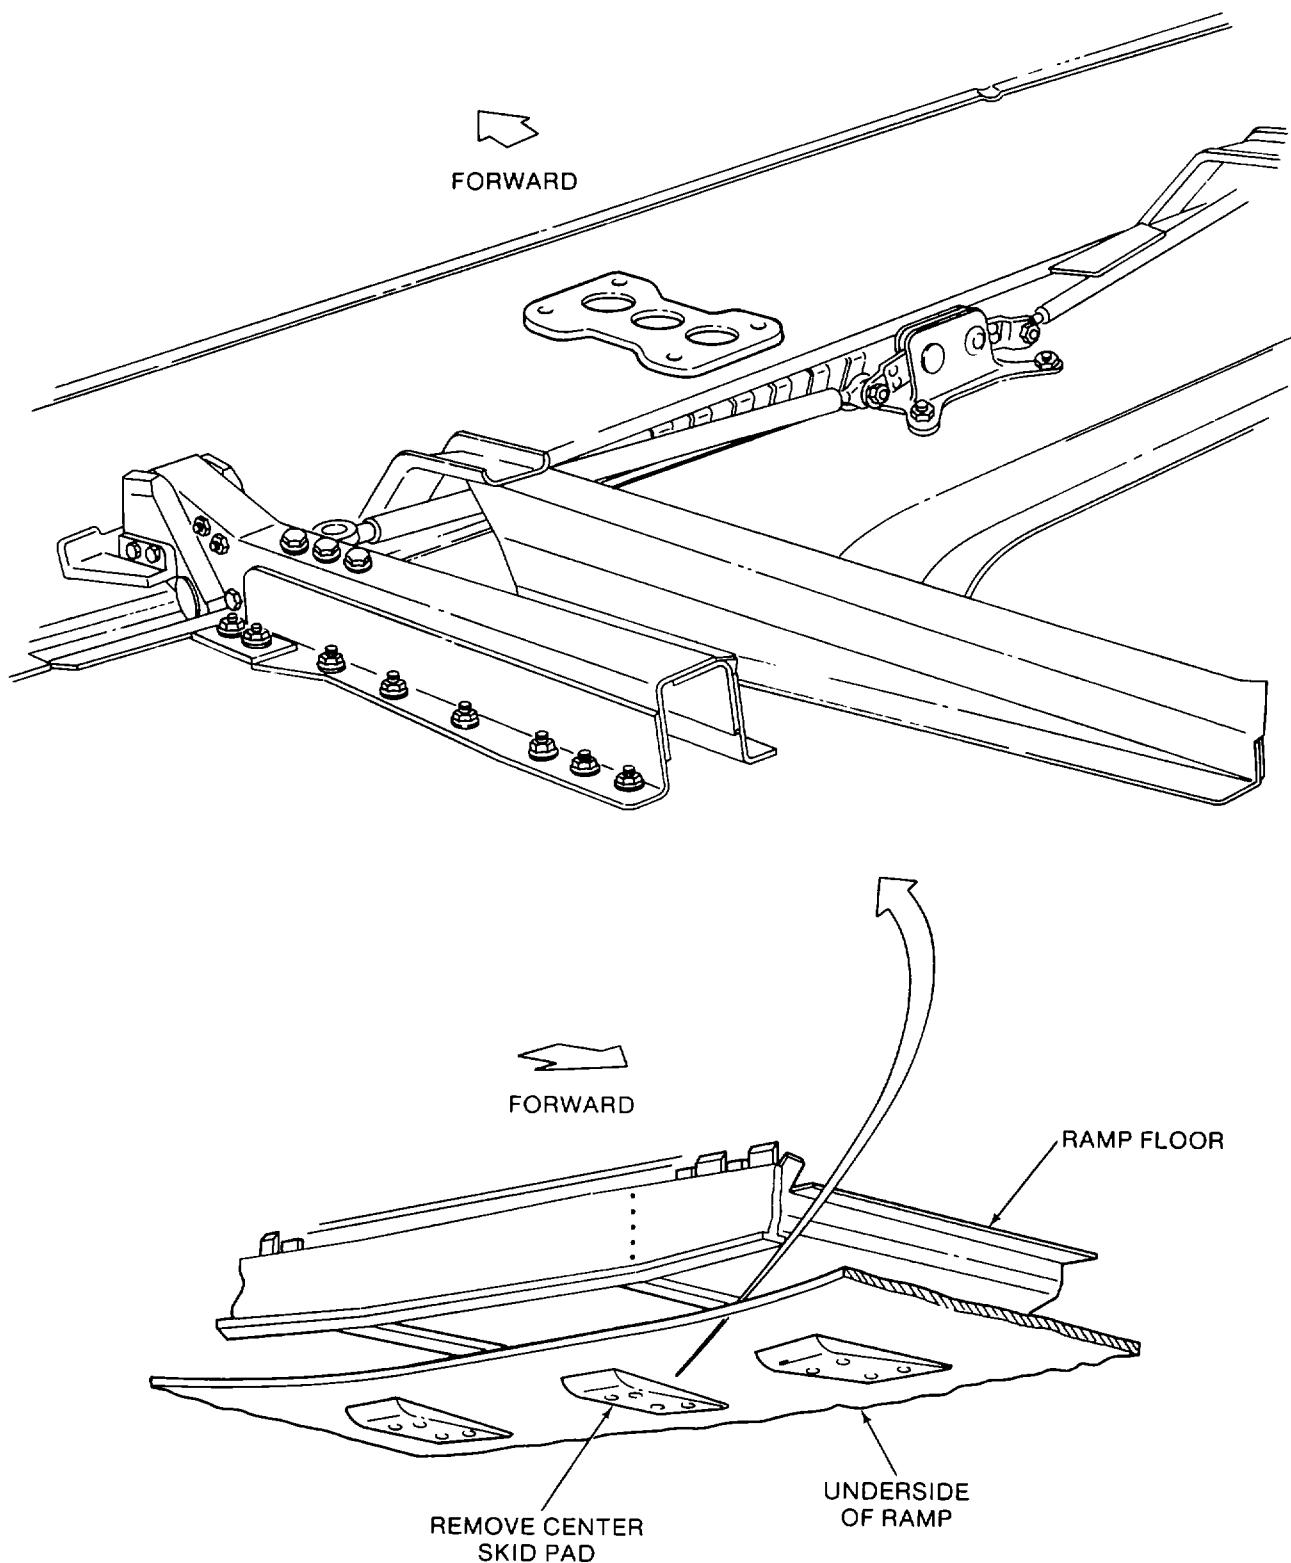

Figure 2-12. Center Skid Pad Location
a. *Installation Preparation.* Extend the ramp tongue to gain access to the four screws that attach the center skid pad (Figure 2-12).